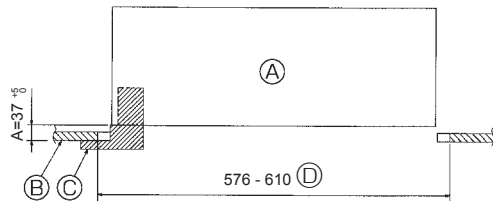
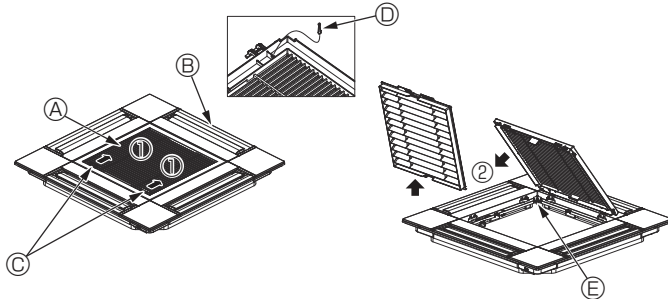

Fig. 10-2
Fig. 10-3
10.2. Preparing to attach the grille (Fig. 10-2)
- ① Main unit
- ② Ceiling
- ③ Gauge (Accessory)
- ④ Ceiling opening dimensions
10.2.1. Removing the intake grille (Fig. 10-3)
- Slide the levers in the direction indicated by the arrow ① to open the intake grille.
- With the intake grille in the "open" position, remove the hinge of the intake grille from the grille as indicated by the arrow ②.
- ① Intake grille
- ② Grille
- ③ Intake grille levers
- ④ Grille hook
- ⑤ Hole for the grille's hook